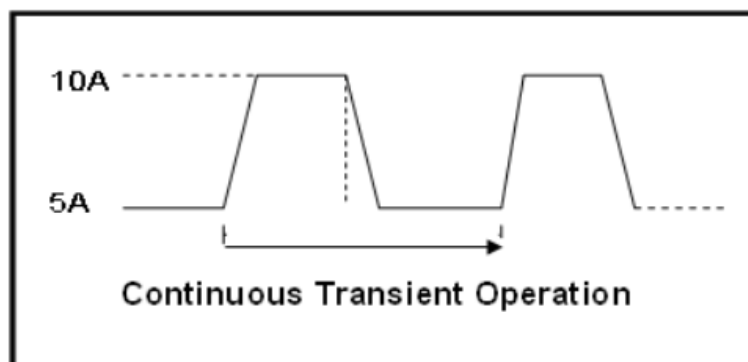

Figure 7-2-2 Continuous Transient Operation
1. Continuous mode: the electronic load will automatically switch continuously between the two set, high and low values. The continuous mode interface is shown in Figure 7-2-2.